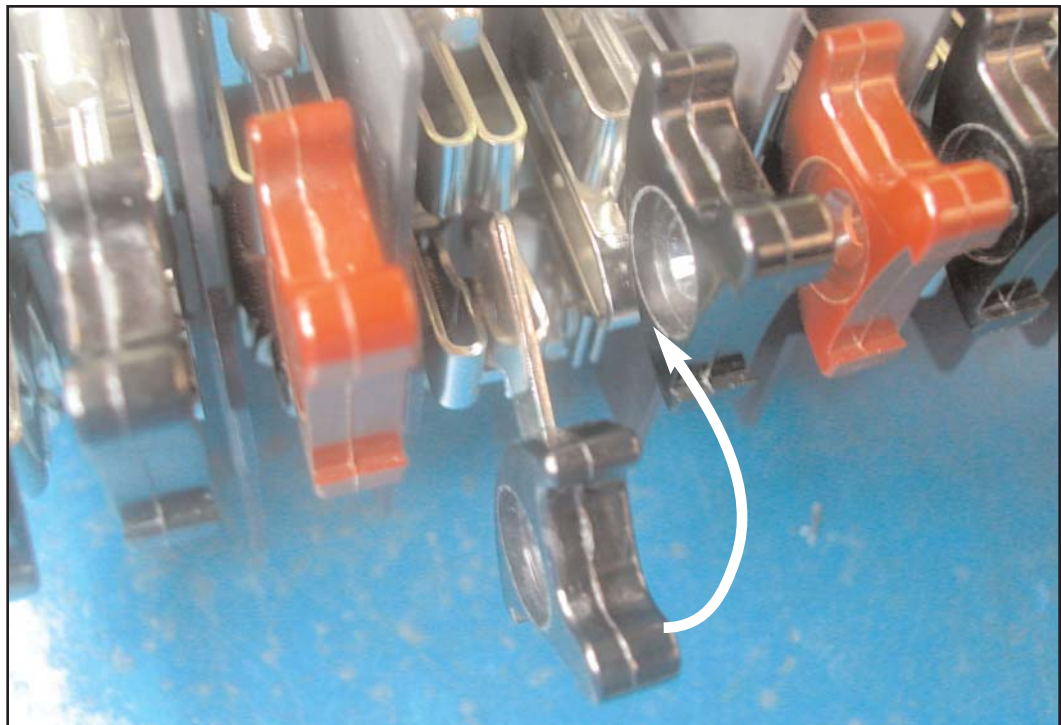

Fig. 3.20: Close Shorting Blade
4. Close the Shorting Blade (Fig. 3.20).